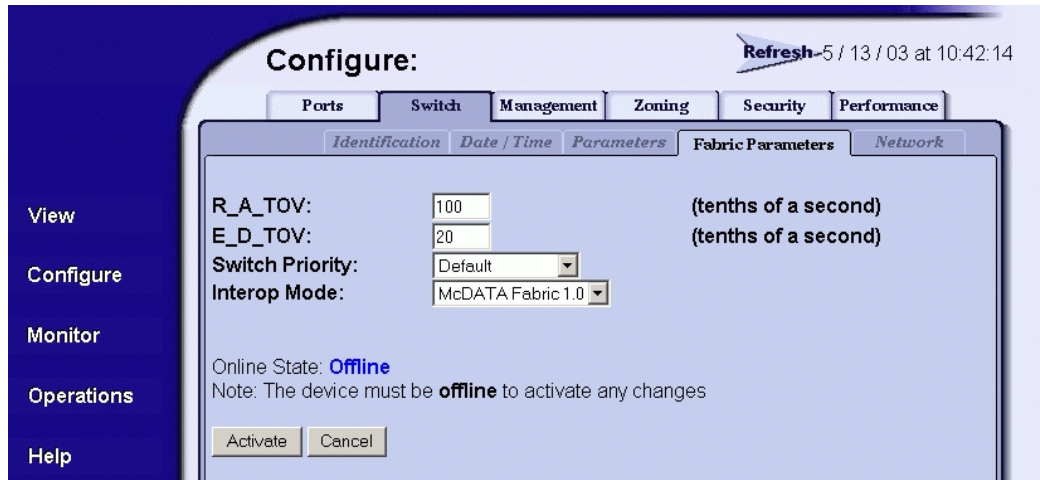

Figure 2-9 Configure Panel (Switch Page with Fabric Parameters Tab)
3. At the *Configure* panel, click the *Switch* tab, then click the *Fabric Parameters* tab. The *Switch* page displays with the *Fabric Parameters* tab selected (Figure 2-9).